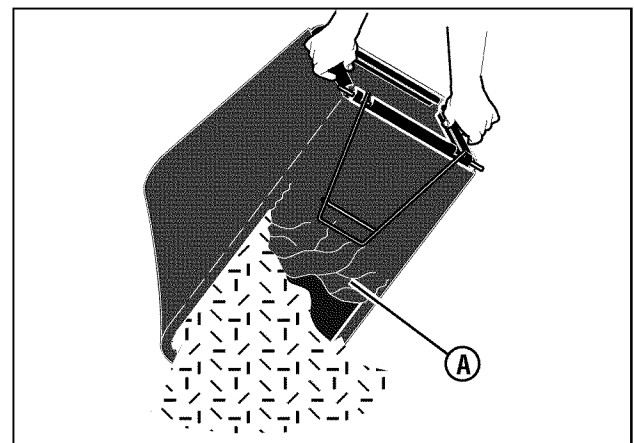

Figure 9: Emptying the grass bag
3. Open the top cover **(A, Figure 9)**. Empty the grass from the grass bag.